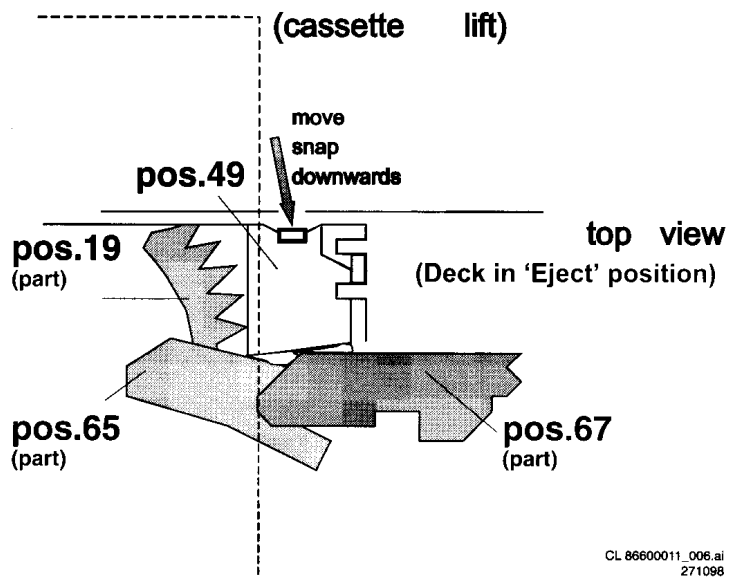

Figure 15
6.13 Transport disc pos. 33
- Remove belt pos. 3.
- Remove switching lever pos. 49 by releasing the snap as shown in figure 15.
- Remove play switch lever pos. 80.
- Remove standby switch lever pos. 79.
- Carefully move the arm of switch lever assy pos. 39 away from the transport disc.
- Remove intermediate wheel pos. 34.
- Cut the three snappers of the transport disc pos. 33 and take out the disc. Do not damage the post!
- When re-assembling, insert a new transport disc. Take care that the head support contour is in the 'standby' position. Also take care that the switching lever pos. 49 is in the right position again!